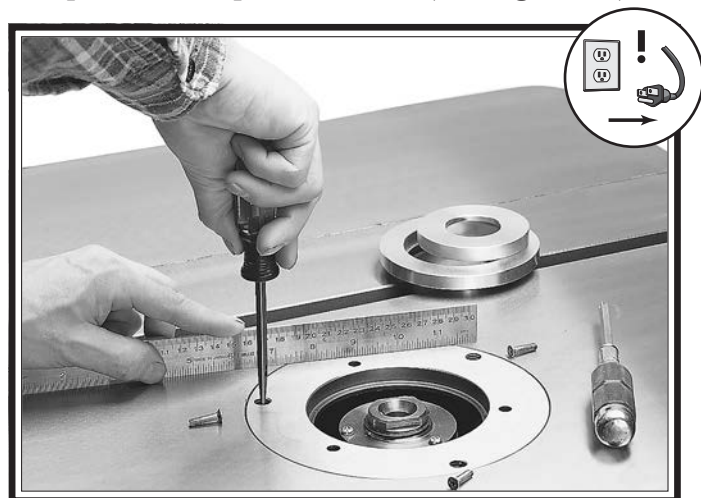

Figure 85. Example of adjusting table inserts.
4. Adjust flat head screws so ends of straightedge lay flat on table surface at all positions of pattern above (see **Figure 85**).